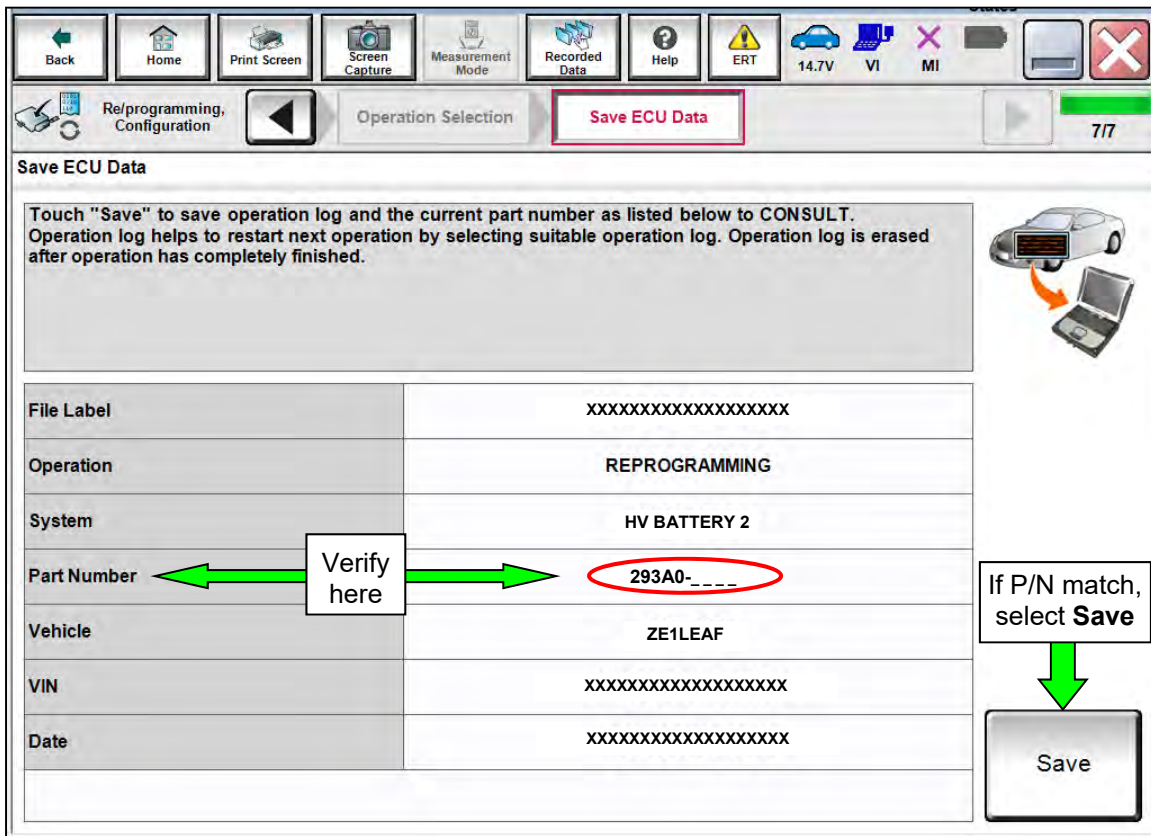

Figure 9
20. Find the **Part Number** (see Figure 9) and write it on the vehicle's repair order.